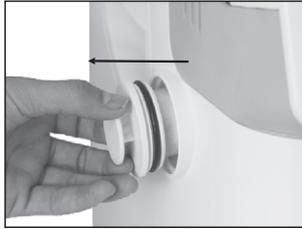
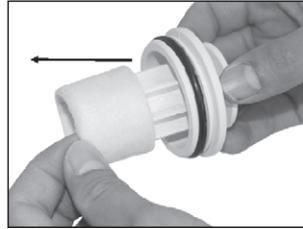

Figure 12
Figure 13
- The mesh in filter cleans once half a month. I -stage filter can be taken out of the foreside panel. (Figure12、 Figure13)